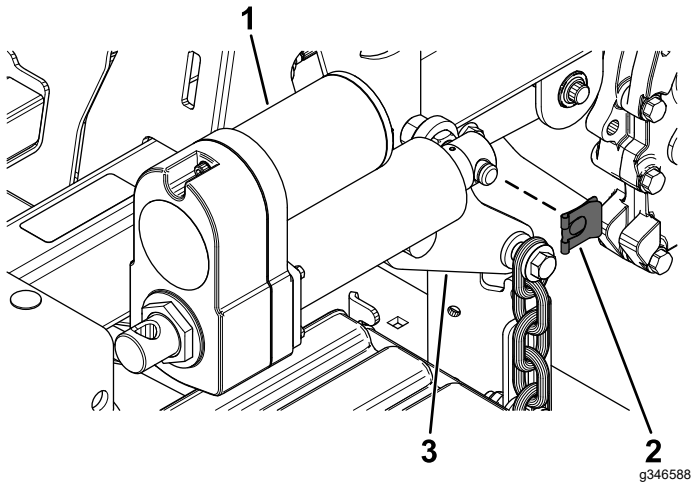

Figure 20
1. Secure the actuator to the rear deck-lift arm using the pin clip (Figure 20).